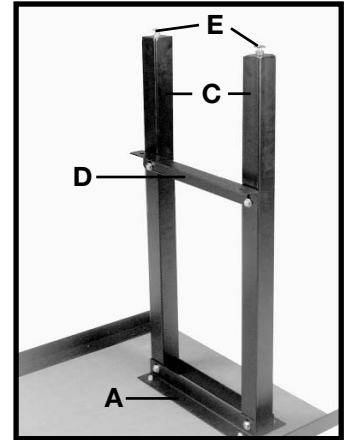

Fig. 61
4. Assemble two legs (C) Fig. 61, to the support brackets (A) using two 5/16-18 x 2-3/4" hex head screws, four 11/32" flatwashers, two 5/16" lock washers, and 5/16" hex nuts. **NOTE:** The four flat washers will be positioned underneath the heads of each screw and under each lockwasher. **CAUTION:** Do not completely tighten hardware at this time.
5. Assemble shelf bracket (D) Fig. 61, to two legs (C) as shown, using two 5/16-18 x 2-3/4" hex head screws, four 11/32" flat washers, two 5/16" lockwashers, and two 5/16-18 hex nuts. **IMPORTANT:** The side of support (D) with the wide slots should be fastened against the legs. Tighten all mounting hardware used to assemble the legs.
6. Assemble the two leveling screws and locking nuts (E) Fig. 61, to the bottom of the legs.